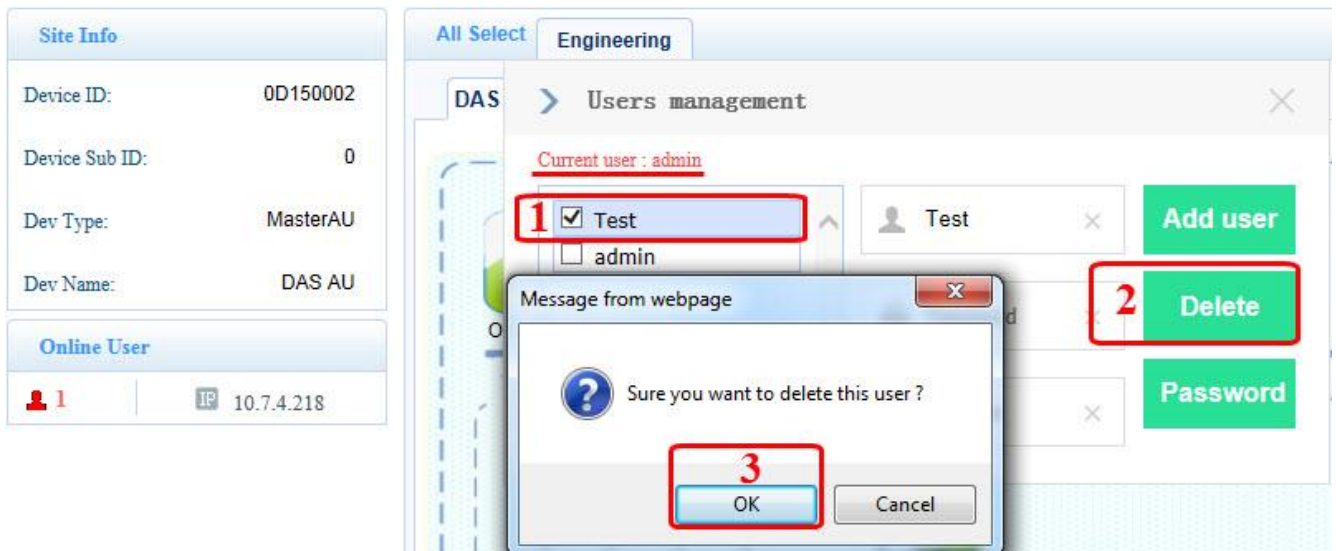

Figure 2-16 Delete User
- a) Choose the user need to delete. See **1** in the Figure 2-16.
- b) Click **Delete** button. See **2** in the Figure 2-16.
- c) Click **OK** button to confirm. See **3** in the Figure 2-16